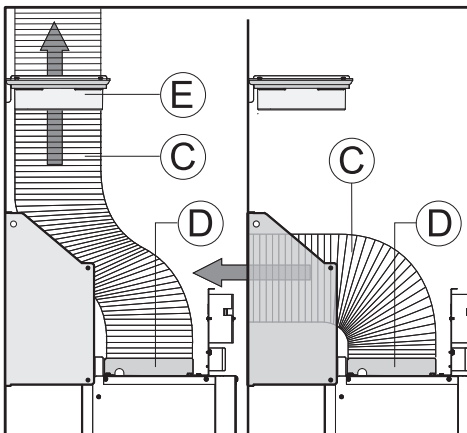
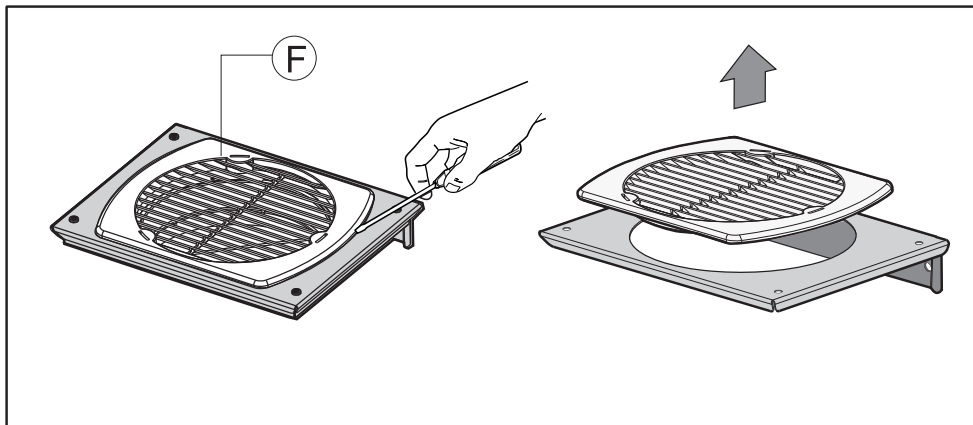

Fig.8
Fig.9
- Remove the grille F (**Fig. 9**) only if the air exhaust tube must be passed through the inside of the air outlet bracket E (**Fig. 8**).